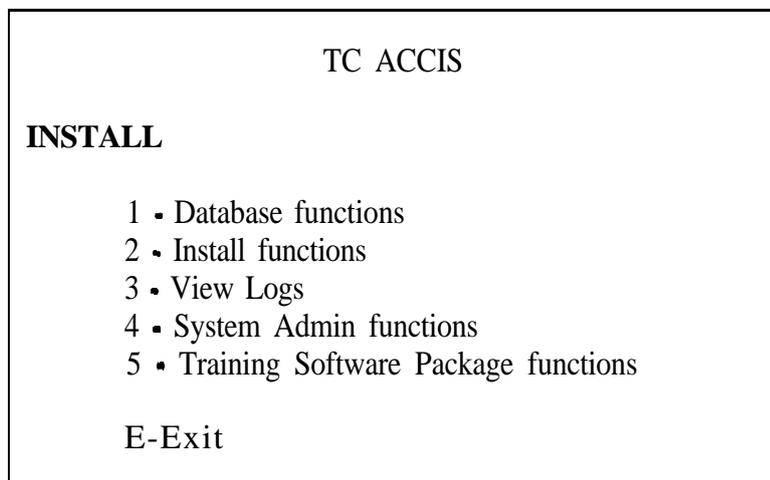

Figure 6-1. TC ACCIS INSTALL MENU
You now get the TC ACCIS Install menu as shown in Figure 6-1
5. Enter **./install** and press RETURN. The Install menu displays (see Figure 6-1).